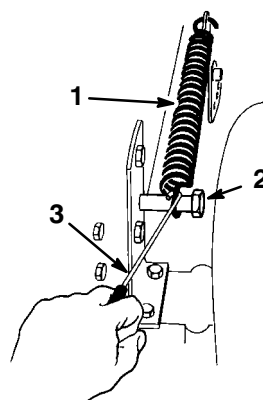

Figure 34
4. Remove the height-of-cut lift assist spring from the retaining bolt (Fig. 34), using the spring tool provided with the machine. The spring is between the frame and the right rear wheel.